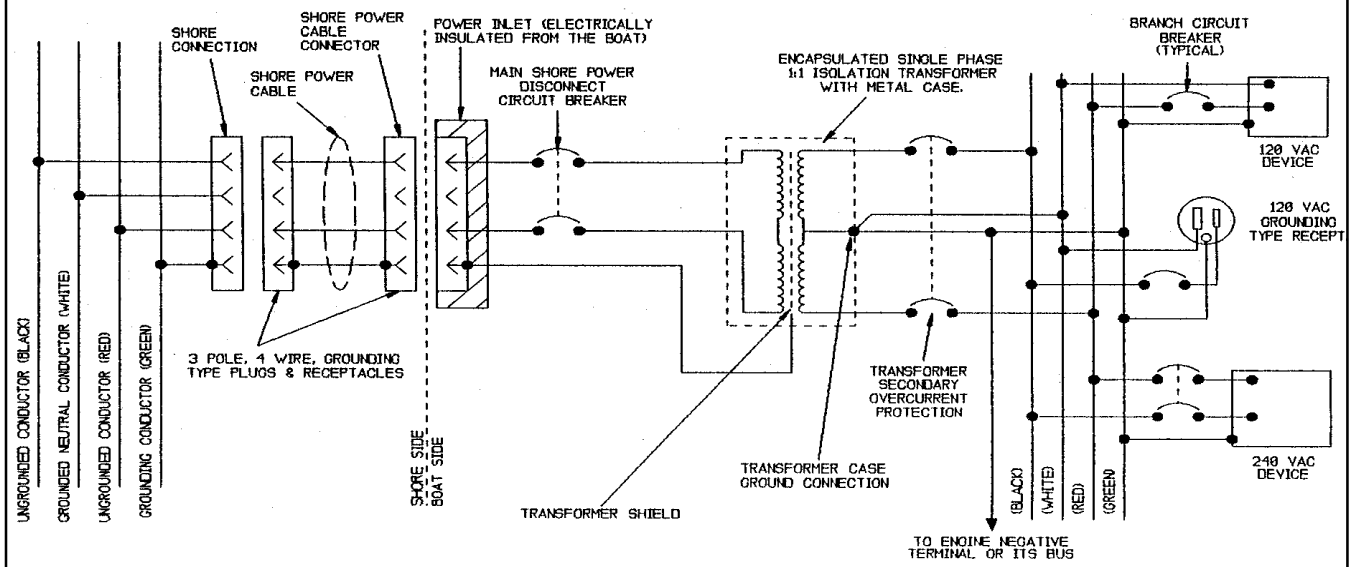

Figure 1. Electrical Diagram – Method 1 (see Figure 5 for Wiring Connections)
*Note: Figure 1, Figure 2 and Figure 3 are reprinted with permission from the American Boat and Yacht Council (ABYC). To obtain the complete standard referenced or any other standards contact:*
**Figure 8. Typical Wiring as an Isolation Transformer (120 Volt Primary Input) (Similar to Method 1, Figure 1 except with a 120 Volt two-pole input circuit breaker.)**
**Figure 9. Typical Wiring as an Isolation Transformer (240 Volt Primary Input) with 104/208 Volt Secondary Output (similar to Method 1, Figure 1 except with reduced voltage output for 50 Hertz use.)**